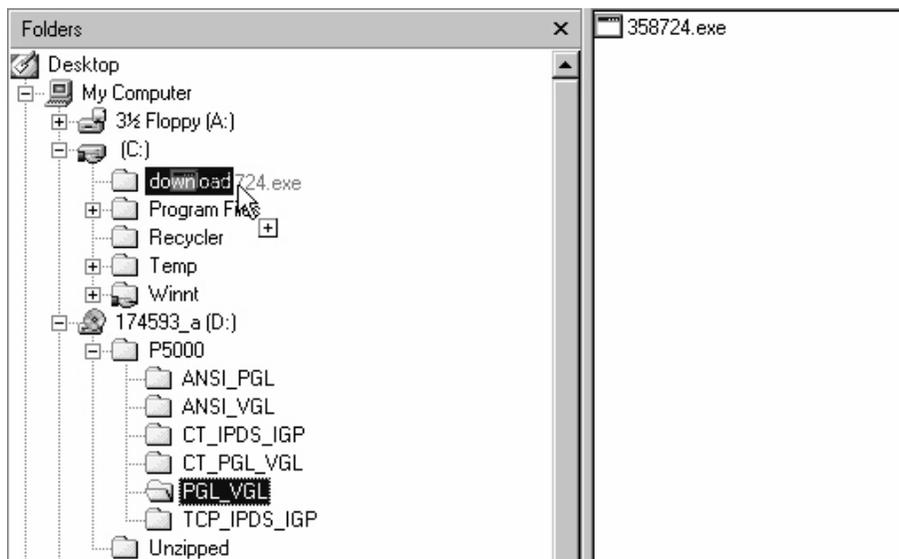

Figure 19. Copying the Emulation File to the Download Directory
18. Copy the file to the download directory. You may need to hold the **Ctrl** key to make sure a + appears to the right of the pointer. (See Figure 19.)